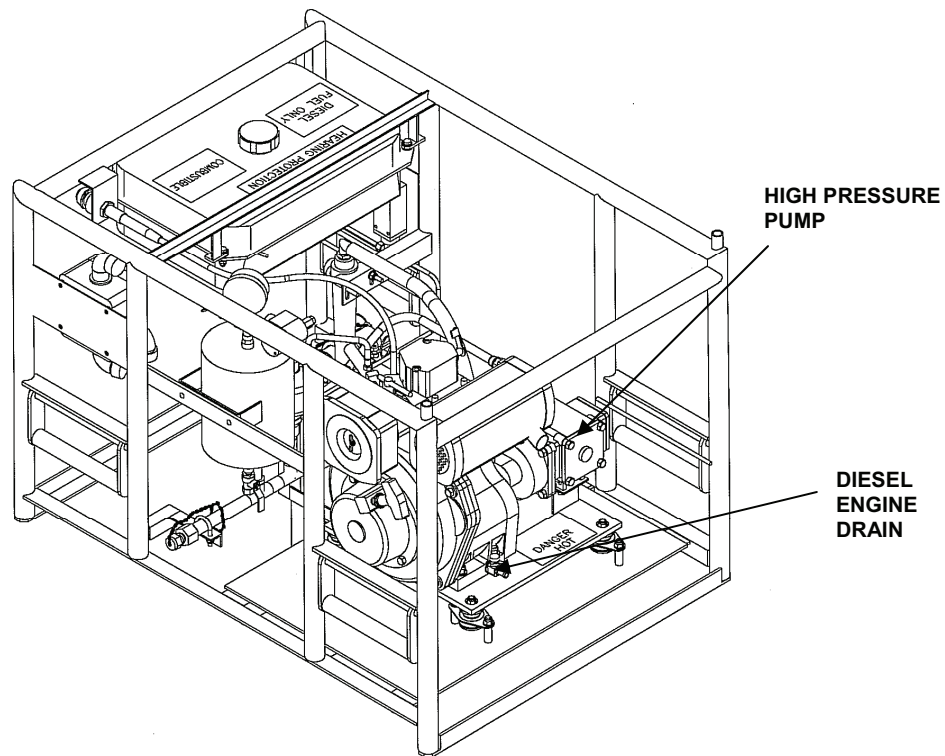

Figure 1. High-Pressure Pump Module (Front).
1. Set high-pressure pump module on a flat surface. Position module so that engine oil can be drained into a suitable container. See Figure 1.